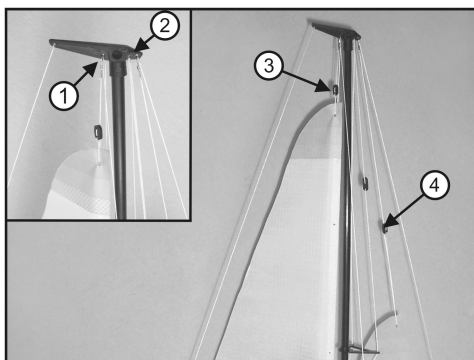

Figure 8
- Attach the tensioning rope of the mainsail to the „mast top“ of the mast as shown in figure 8, item 1.
- Attach the tensioning rope of the head sail to the „mast top“ of the mast as shown in figure 8, item 2.